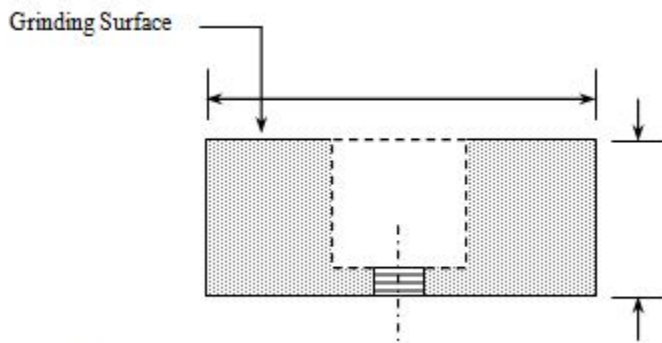

Figure 101E *Type 6 Cup Stone*
- Type 6 cup stones are generally used for finishing to remove surface metal on track components such as frogs, rail ends, thermite and electric flash butt welds. (See Figure 101E)